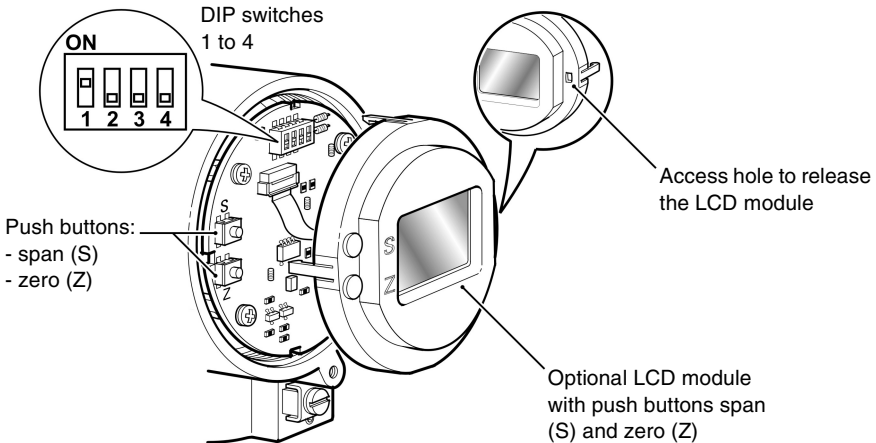

Figure 4-2: Location of DIP switches and push buttons
4.2 Manual Configuration Facilities (Figure 4-2)